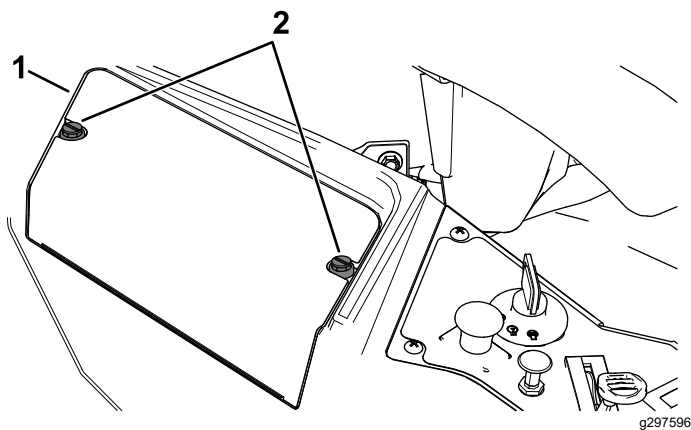

Figure 42
3. Loosen the 2 fasteners on the battery cover counterclockwise 1/4 turn, and remove the battery cover (Figure 42).
6. Install the battery cover by pushing down and tightening the 2 fasteners clockwise (Figure 42).